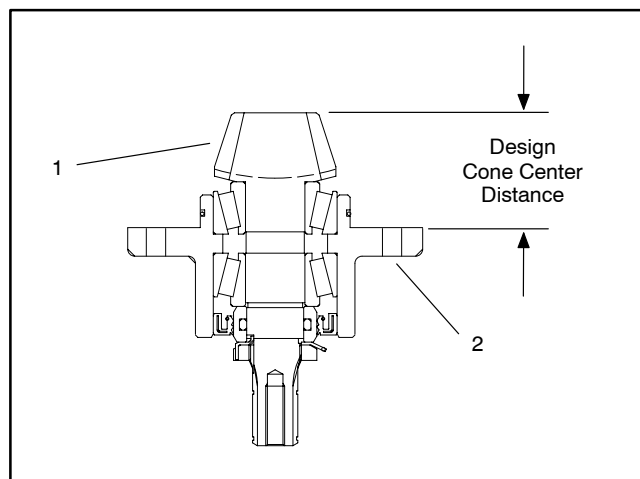

Figure 20
9. Use a depth gauge to measure the distance from the end face of the input shaft/pinion gear to the mating surface of the bearing case. Subtract the “Design Cone Center Distance” from this distance to determine initial shim thickness (Fig. 20).